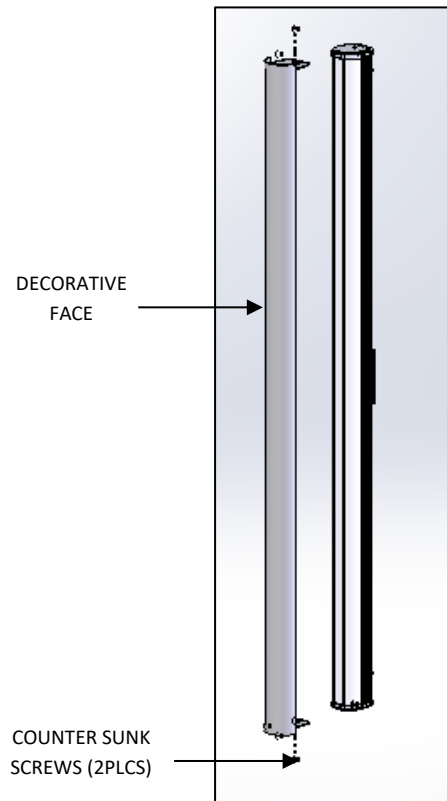

FIG. 16 – FINAL ASSEMBLY
11. Reattach the DECORATIVE FACE to the FIXTURE with the HARDWARE provided as shown in FIG.16.